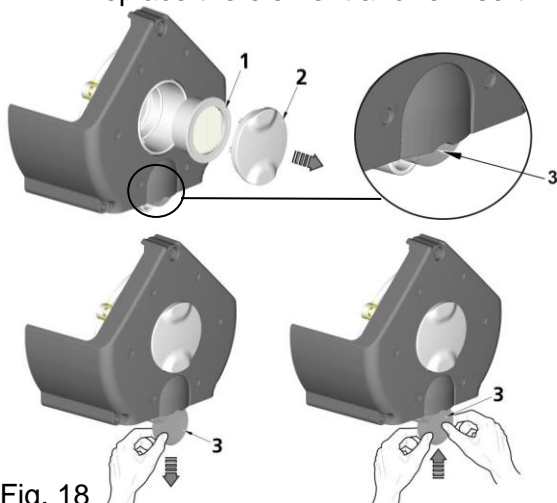

Fig. 18
18.5. Air pumps intake filter set replacement (Fig. 18)